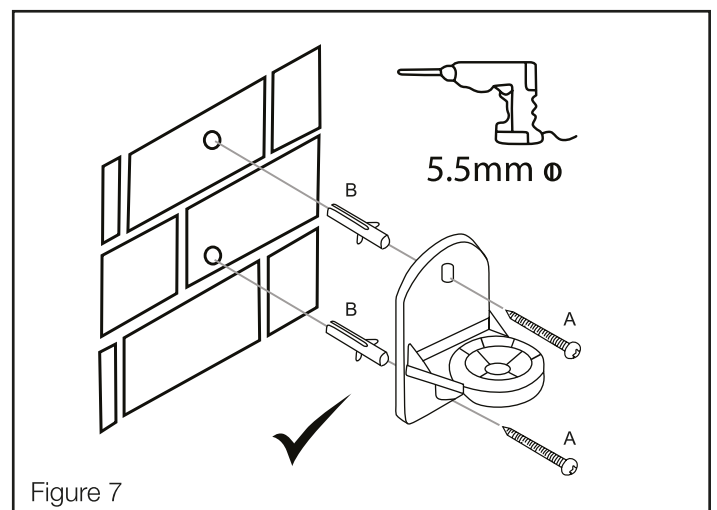

Figure 7
1. Mark 2 fixing holes using the wall plate as a guide. Ensure plate is straight and level (see Figure 7).
3. Fully insert the concrete anchors (B) in the drill holes. Tap with hammer if required.
4. Attach the wall plate using the 25mm woodscrews (A) into each concrete anchor (B). Do not over tighten.